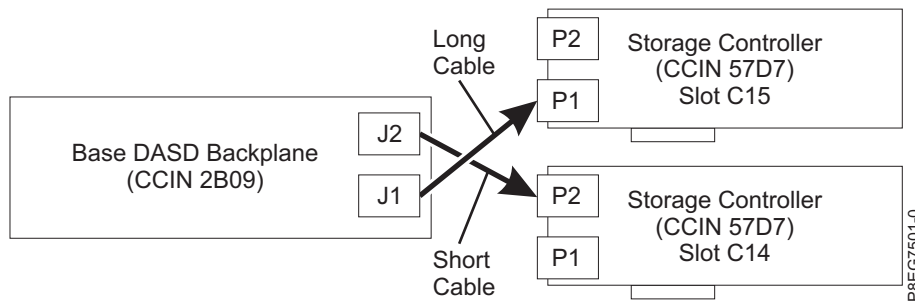

Figure 100. Reconnecting the SAS cable in a split-disk configuration
- If you have two PCIe3 x8 SAS RAID internal adapters (CCIN 57D7) (split-disk feature), the short SAS cable connects the upper disk drive backplane connector (J2) to the P2 connector on the adapter in slot P1-C14. The long SAS cable connects the lower disk drive backplane connector (J1) to the P1 connector on the adapter in slot P1-C15. See Figure 100.